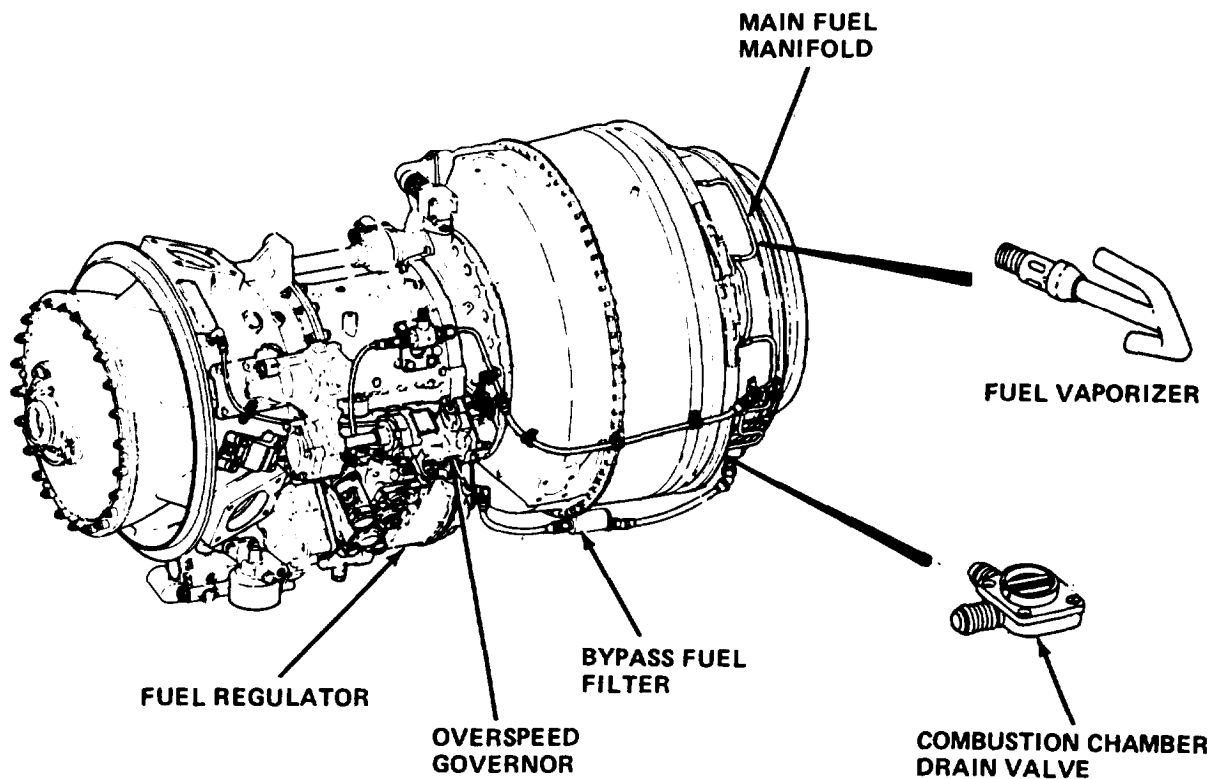

Figure 1-14. Main Fuel System (T53-L-11 Series Engines)
**1-18. Main Fuel System (T53-L-11 Series Engine).** Delivers fuel to combustion chamber. Minimum fuel pressure in fuel control needed to actuate main fuel outlet foot valve is obtained at 8 to 13 percent N1 speed. Metered fuel from fuel control flows through main fuel manifold. It is discharged through fuel vaporizers into combustion chamber where it is ignited by burning starting fuel. (See figure 1-14.)